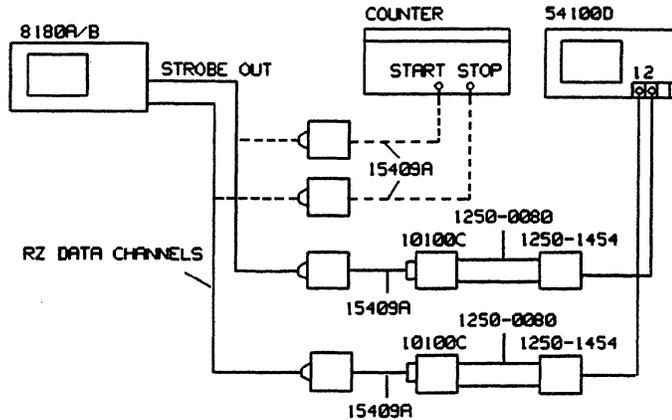

Figure 11-5. Test Setup for the Timing Channel Delay Test
6. Connect the equipment as shown in Figure 11-5 and press RUN.